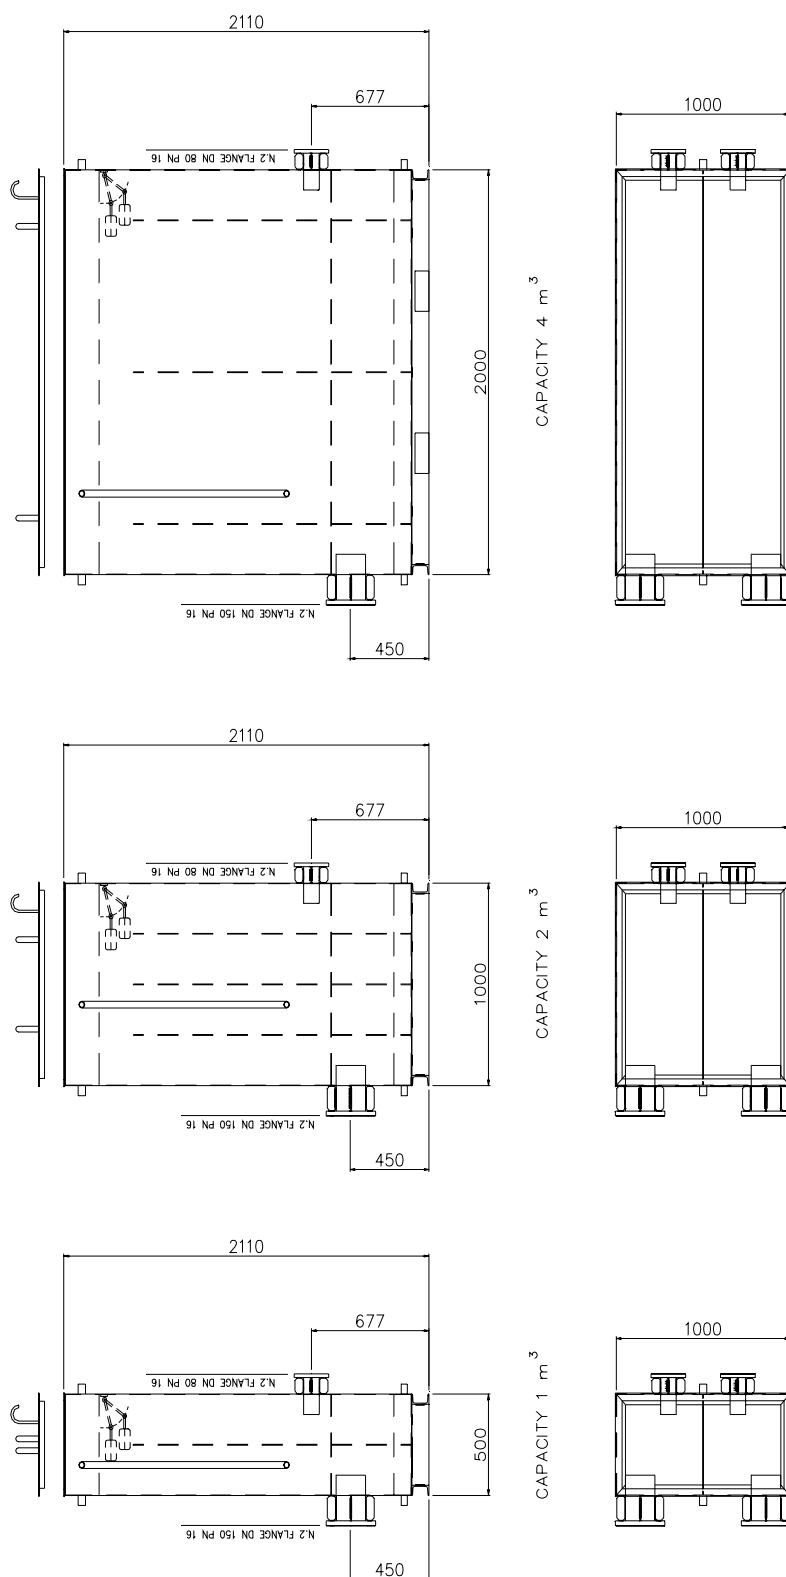

**Fig.27 VASCA IN AISI COIBENTATA COMPLETA DI CARICAMENTO/
**16. VASCA DI ACCUMULO (Fig. 27/28)**
**16. CUVE D'ACCUMULATION (Fig. 27/28)**